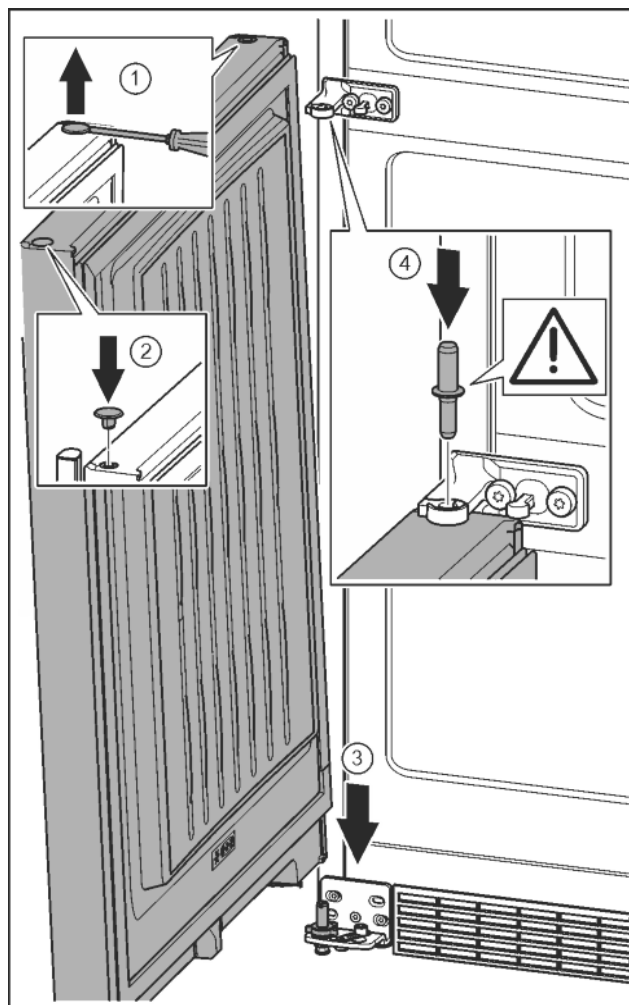

Fig. 21
- ▶ Carefully lift up the plugs with a slotted screwdriver and remove them. *Fig. 21 (1)*
- ▶ Insert the plugs again on the other side of the door. *Fig. 21 (2)*
- ▶ Position the door from above onto the lower bearing pins. *Fig. 21 (3)*
- ▶ Insert the centre bearing pin through the centre bearing bracket into the lower door. Make sure that the catch mechanism is pointing to the rear. *Fig. 21 (4)*